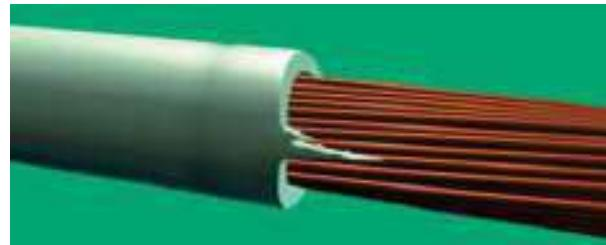

Figure 126
b. Any uneven, ragged pieces (frays, tails, tags) (Figure 126) are no greater than 50% of the wire diameter or 0.039 inch (1 mm), whichever is greater.